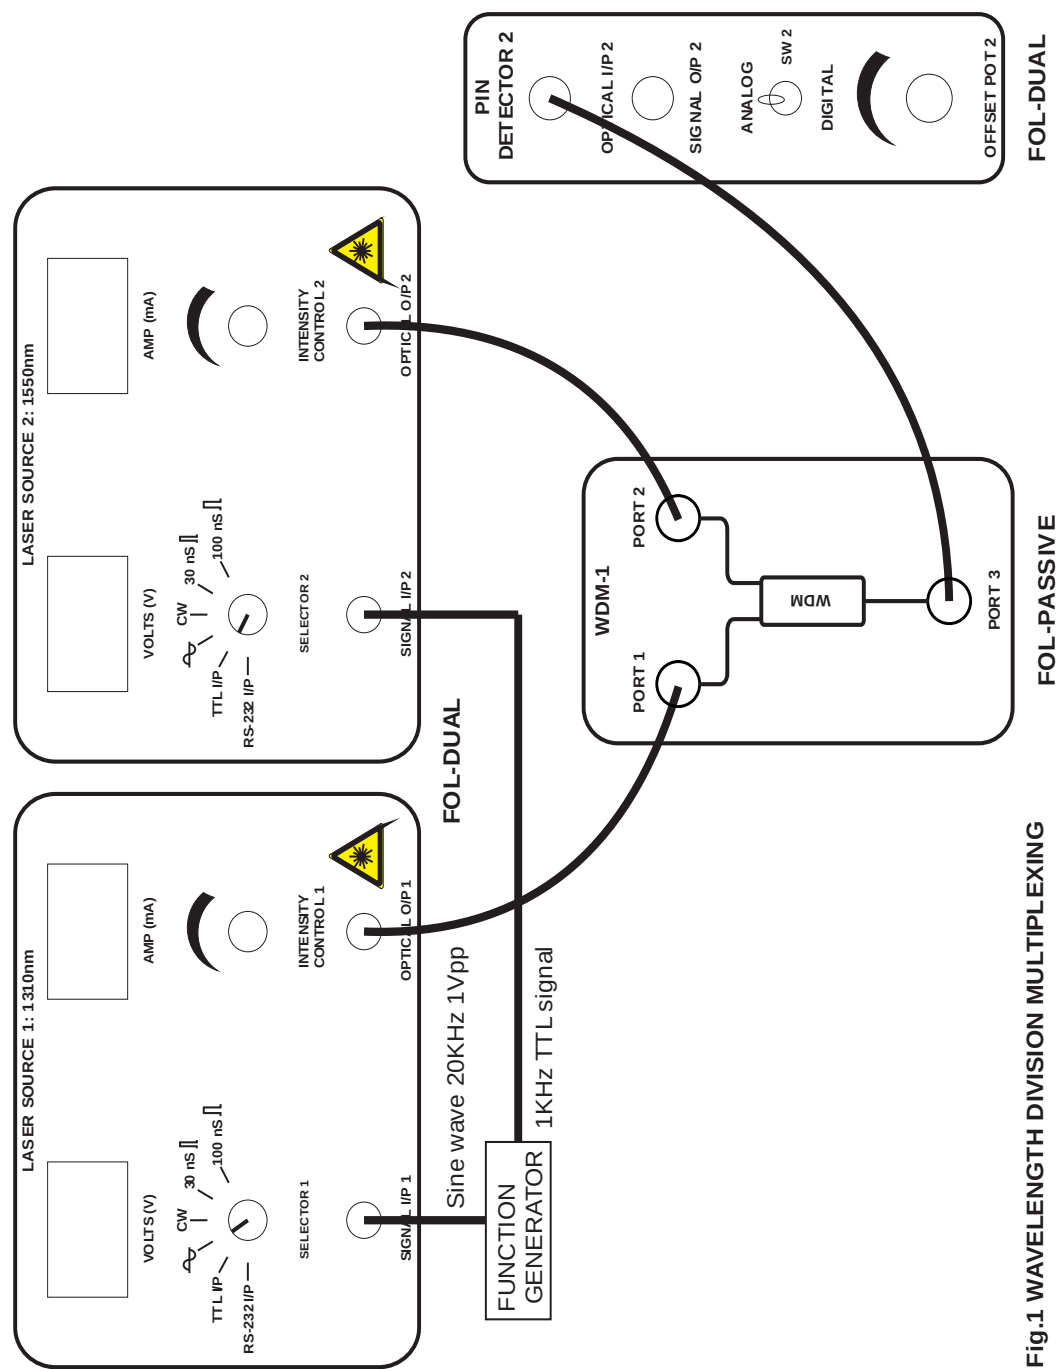

Fig.1 WAVELENGTH DIVISION MULTIPLEXING
1. Refer to figure 1. Set up the Function Generator for o/p with TTL 1 KHz Signal to the SIGNAL I/P2post and set other function generator for 20KHz, 1Vp-p sine wave Signal to the SIGNAL I/P 1 post of FOL-DUAL, using BNC-BNC cable.